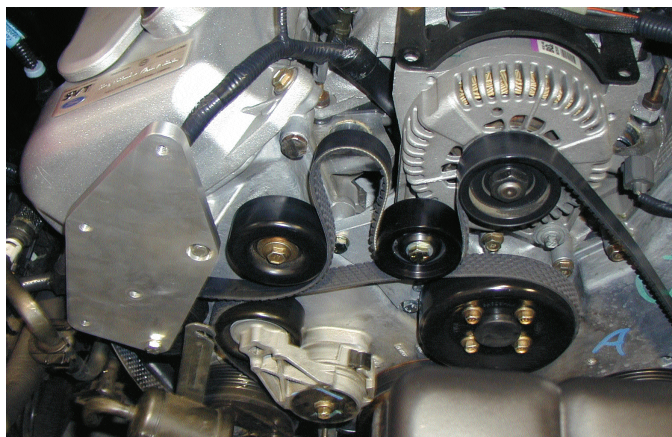

Fig. 3-h
- G.** Install the rear S/C mounting bracket as shown. (See *Fig. 3-h.*) Be sure to install the idler pulley spacer, wiring loom tab, and spacer. (Refer to *Appendix 'C'* for more detail)